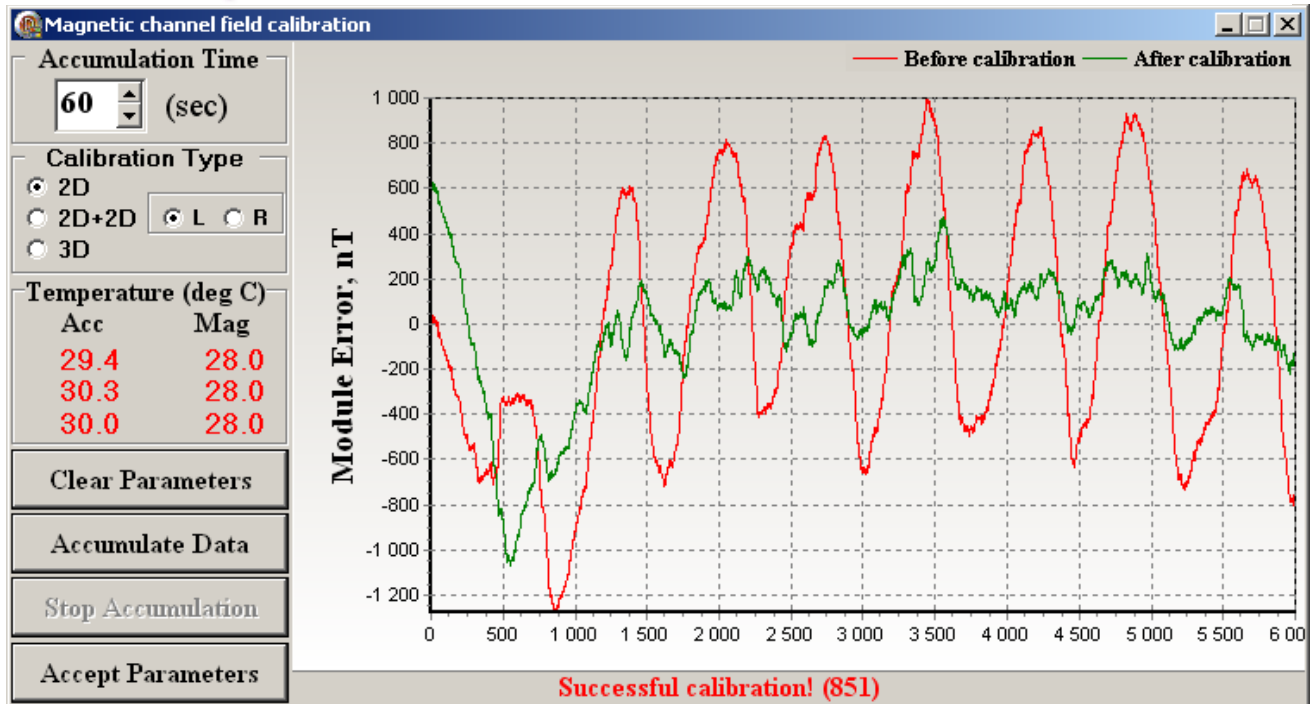

Fig. 8.9
Step 11. Estimate the calibration quality. If the calibration was satisfactory, a caption «Successful calibration!» will appear in the bottom of the window (Fig. 8.9). Click on the «**Accept Parameters**». Calibration matrix of the magnetometer biases and scale factors will be calculated and saved to the AHRS nonvolatile memory automatically, and in the directory in which the AHRS_Demo.exe file is located, files with .par and .amd extension will be created.